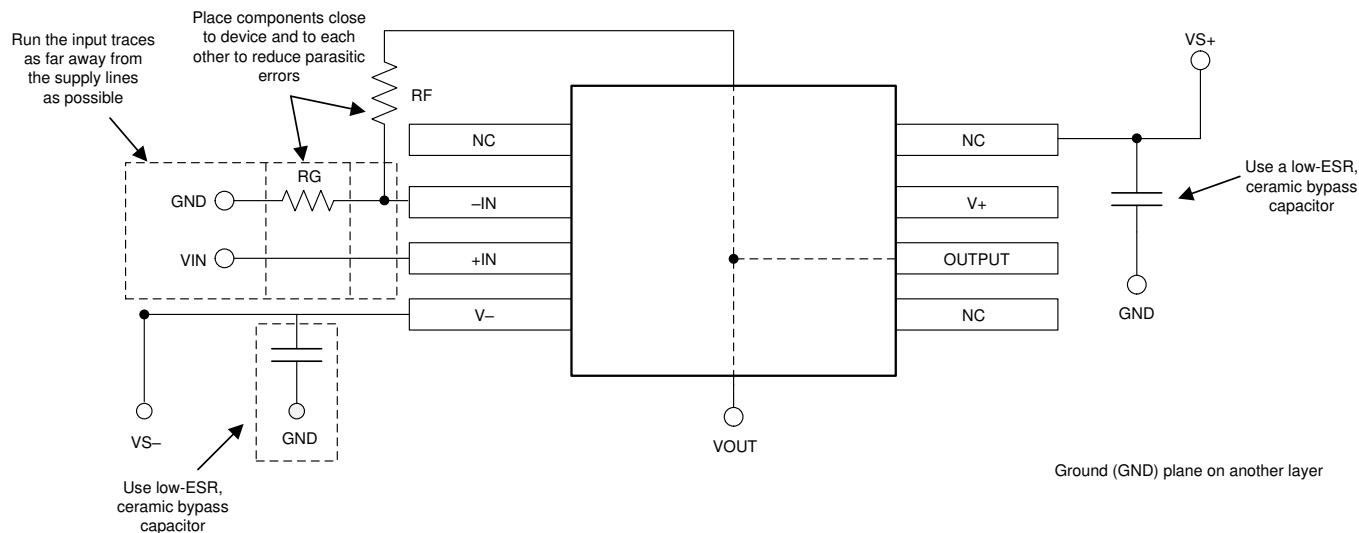

图 7. Operational Amplifier Board Layout for Noninverting Configuration
- Place the external components as close to the device as possible. As illustrated in 图 7, keeping R_F and R_G close to the inverting input minimizes parasitic capacitance.